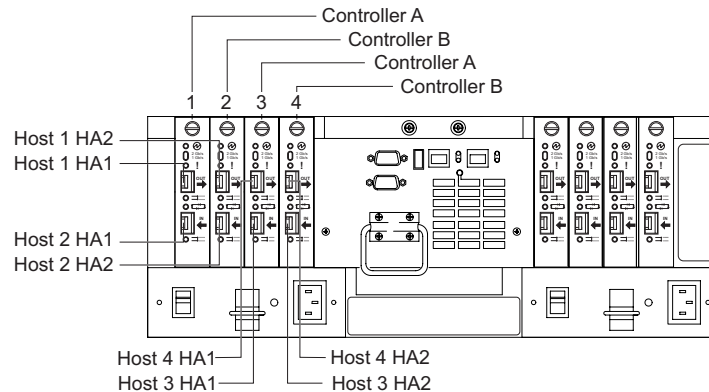

Figure 37. Connecting hosts directly to the controller
1. Connect the first host (Host 1) to the DS4400 Storage Server, as shown in Figure 37.
2. Connect a second host (Host 2) to the DS4400 Storage Server, as shown in Figure 37.
3. Connect a third host (Host 3) to the DS4400 Storage Server, as shown in Figure 37.
4. Connect a fourth host (Host 4) to the DS4400 Storage Server, as shown in Figure 37.